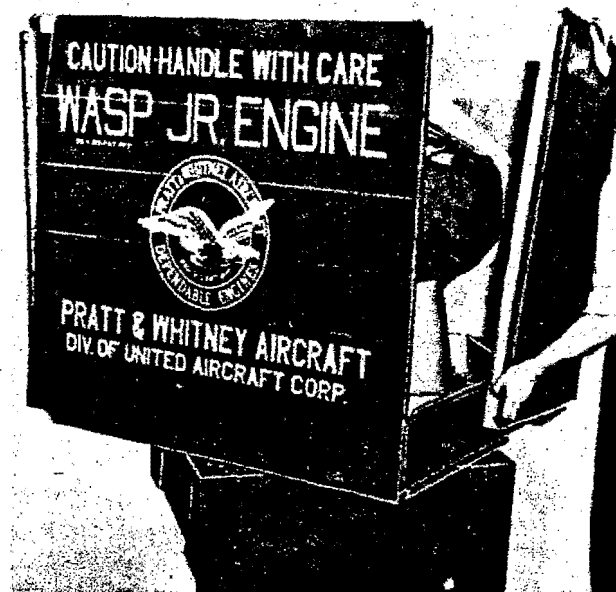

**Figure 4-1. Removing Packing Case Cover**
- b. Attach a sling to the two rings on each side of the cover, and lift the cover from the case [Figure 4-1] carefully in order to prevent damage to the carburetor, which is in a carton fastened inside the packing case cover. Lift the front sides out of the base [Figure 4-2].